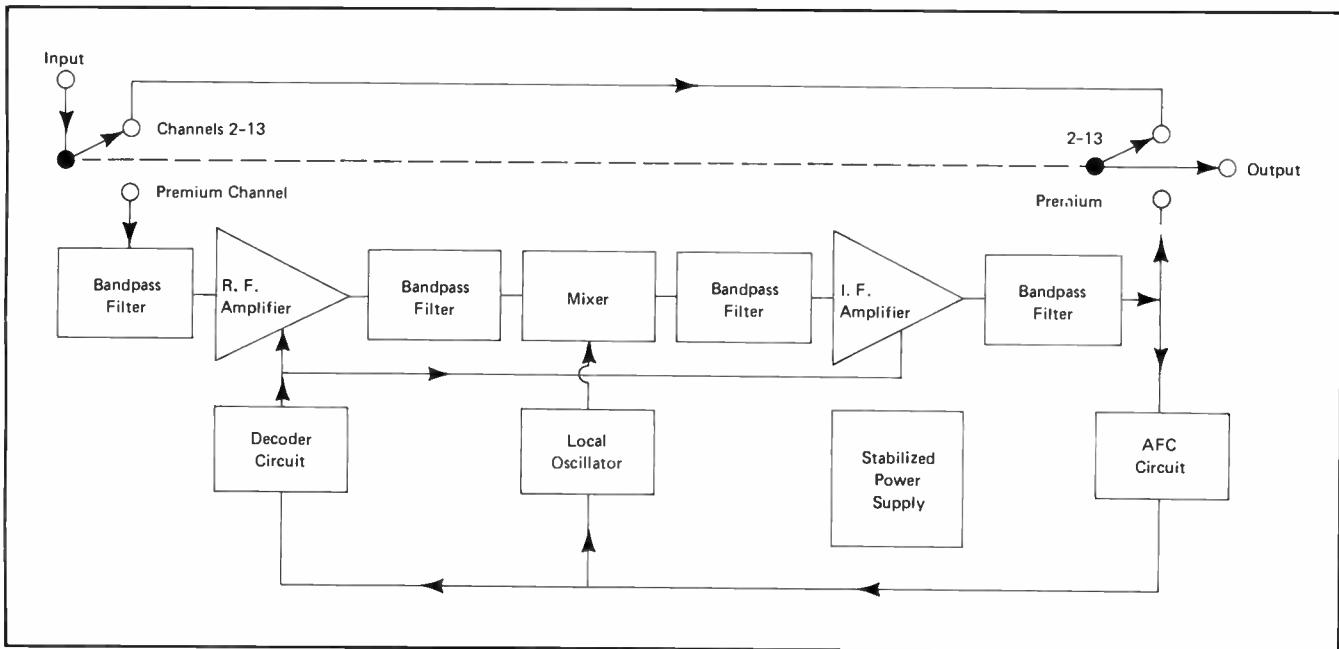

Figure 6. Oak Econo-Code Converter/Decoder Functional Block Diagram
**ECONO-CODE.** This system uses a single channel converter-decoder (Figure 6). It has a two-position switch for reception of standard unscrambled channels 2-13 and for